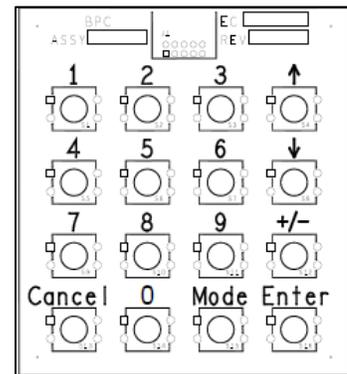

Figure D.6.1a – Manager's Keypad
- a. To zero the counter, press the following buttons on the keypad shown in *Figure D.6.1a* in the sequence listed in step b.